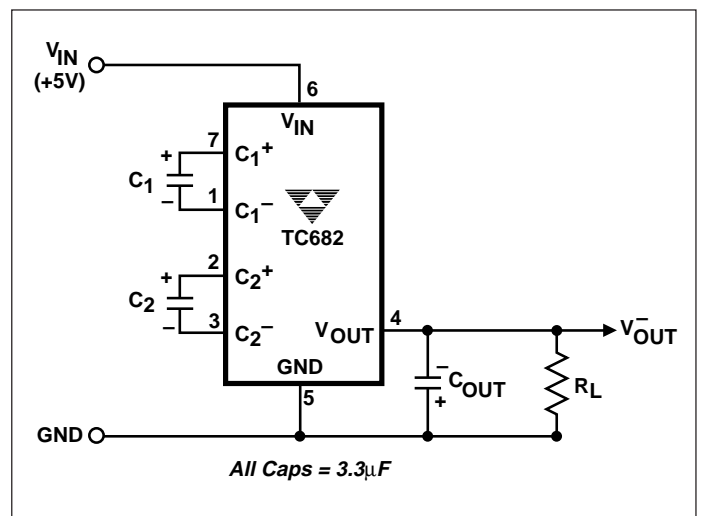

Figure 1. TC682 Test Circuit
**ELECTRICAL CHARACTERISTICS:** Over Operating Temperature Range,  $V_{IN} = +5V$ , test circuit Figure 1, unless otherwise indicated.